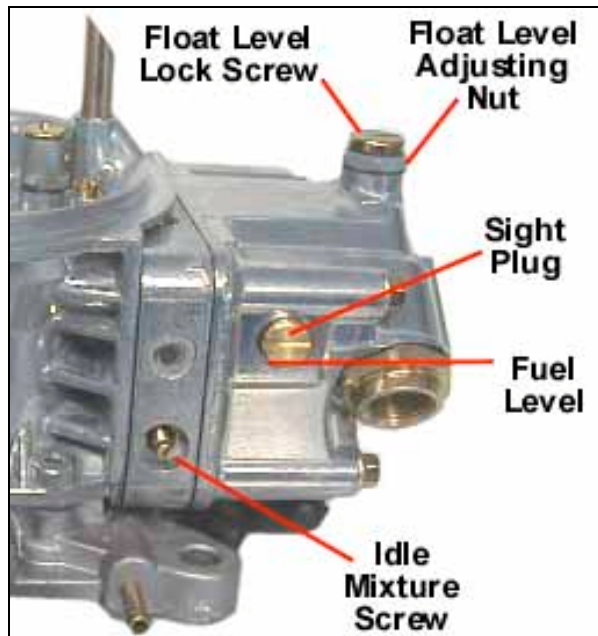

Figure 10
2. Adjust each idle mixture screw (Figures 10 & 11) 1/8 turn at a time, alternating between each screw. Turn them equally, until you achieve the highest possible vacuum reading without adjusting the curb idle speed screw. Turn screws in to lean the mixture. Turn them out to richen the mixture.
2. Observe the sight plug for the fuel level. If none is seen, the level is too low. If it is higher than the bottom of the sight window, it is too high. **NOTE:** A properly set float level will have the fuel level located at the bottom edge of the sight window, as shown by the line in Figure 10.